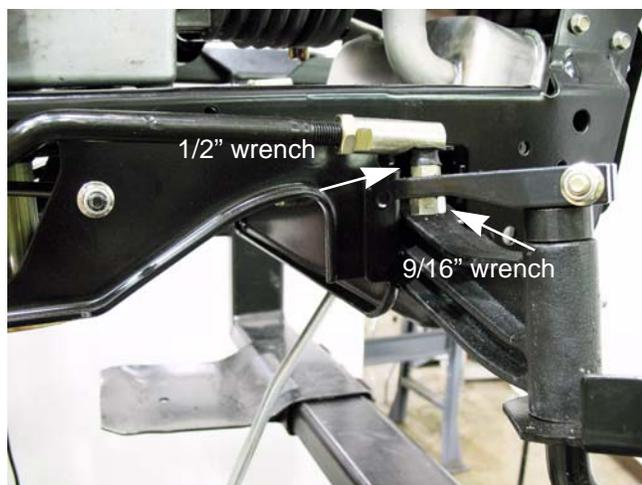

Figure 3A.6
4. Remove the nut holding the drag link to the steering block using a 1/2" and 9/16" wrench. See Figure 3A.6.